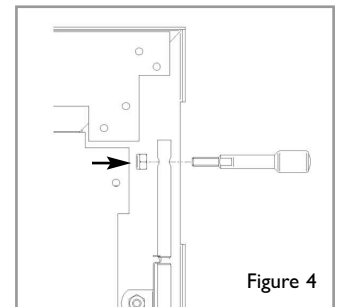
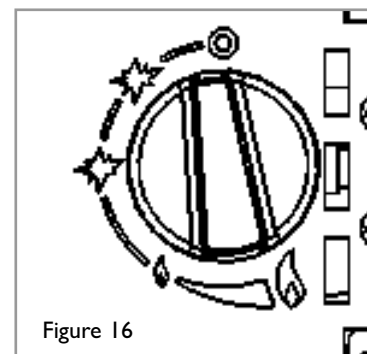

Figure 4
Figure 16
**Slide controls models :** The control knob is supplied as a loose part. Insert the control knob into the hole in the top of the slide control spindle (Figure 4). Secure the control knob in position using the M4 nyloc nut provided. Affix the Slide control position marking sticker on the trim next to the control knob as shown in figure 16.